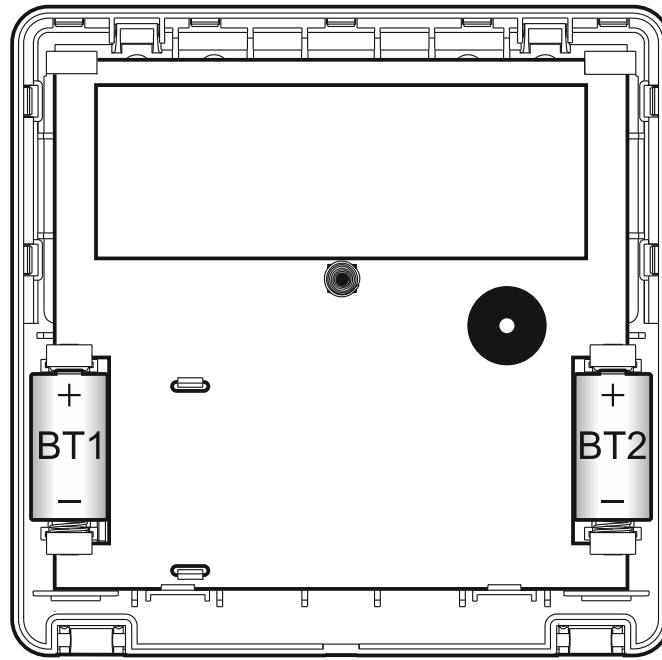

Fig. 3. Keypad enclosure inside with batteries installed.
- on starting the active mode, a low battery message will be displayed (the message will specify which battery is to be replaced – see also Fig. 3).